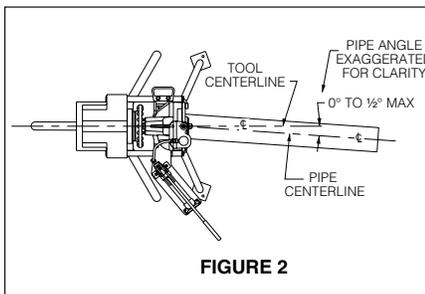

FIGURE 2
2. Position the pipe stand approximately  $\frac{1}{2}^\circ$  to the left (tracking angle). See Figure 2.